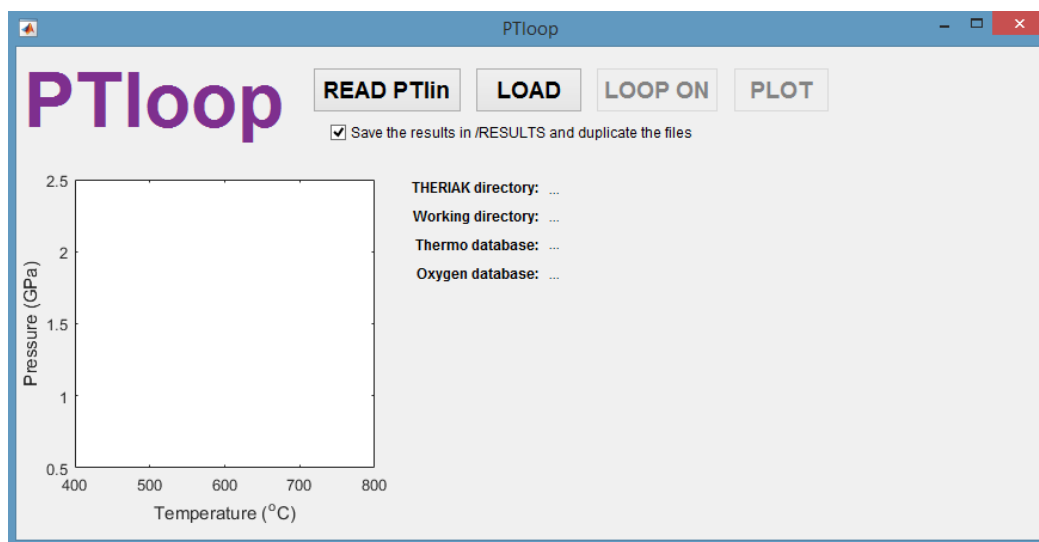

Figure 8.
1. Run PTloop by typing in the MATLAB Command Window "PTloop" and pressing Enter. The PTloop working window will appear (Fig. 8).